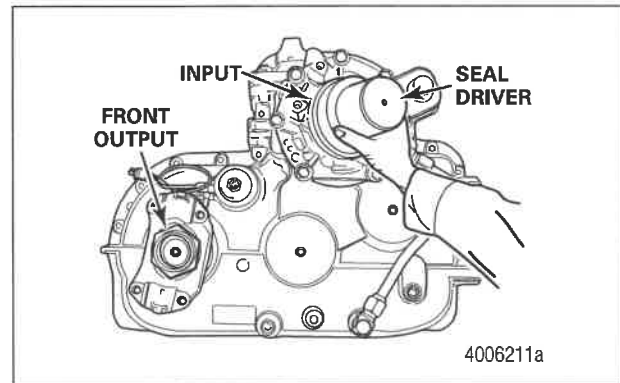

Figure 14
12. Install the transfer case input seal. Hold the sleeve and seal only on the outer diameter. Position the seal into the seal driver and align it with the transfer case input bearing cage. Do not touch the lips in the inner diameter of the seal. Use a dead-blow hammer and the appropriate driver to install the seal into the bearing cage. Figure 14.